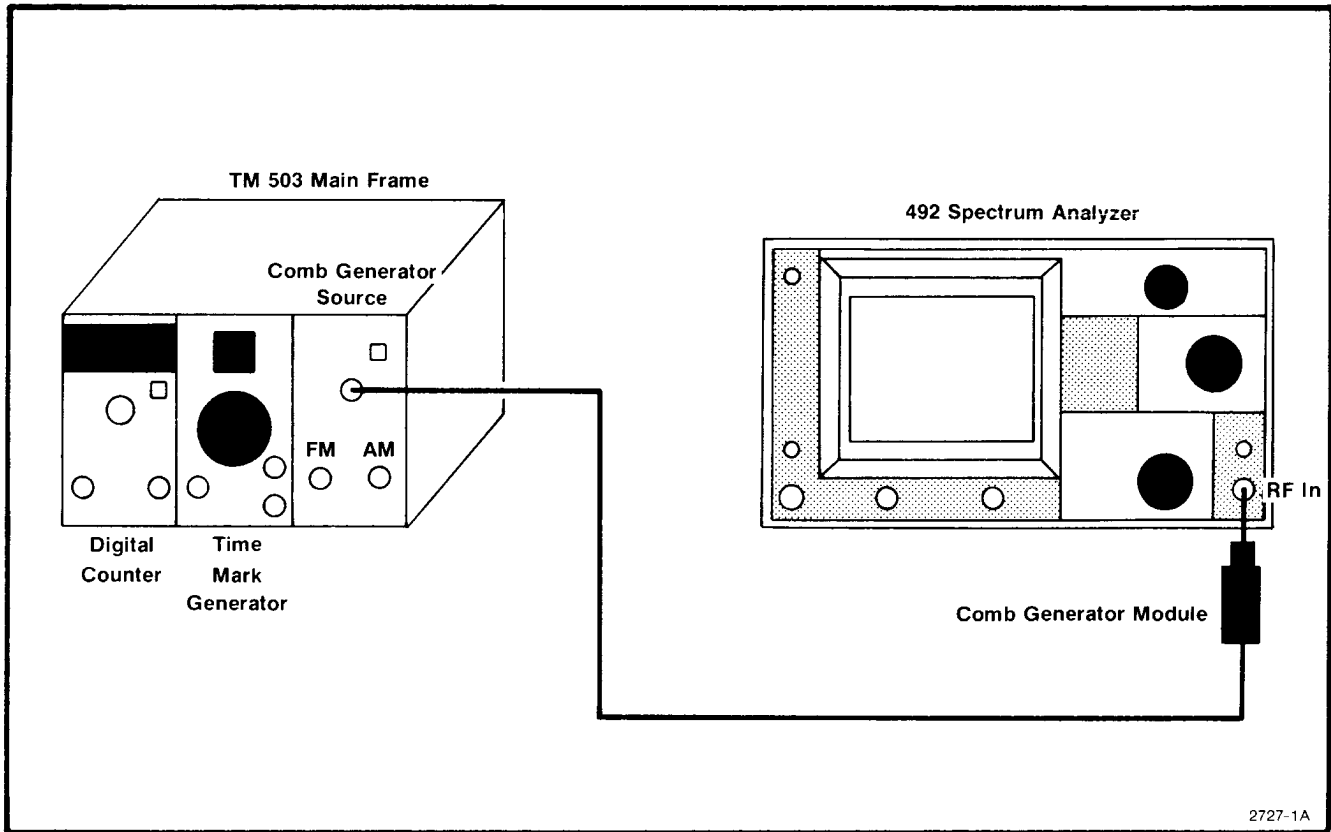

Fig. 3-1. Test equipment setup for checking frequency of the calibrator and the accuracy of the frequency readout.
a. Test equipment setup is shown in Fig. 3-1. Set the front-panel controls as follows, then apply the comb generator output to the RF INPUT.